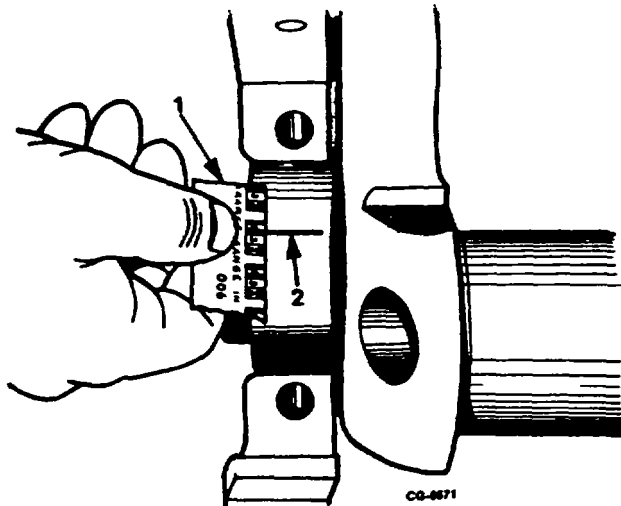

Figure 114. Checking Main Bearing Clearance
5. Do not disturb Plastigage. Using Plastigage envelope, measure widest point of Plastigage (Figure 114). This reading indicates bearing clearance in thousandths of an inch.